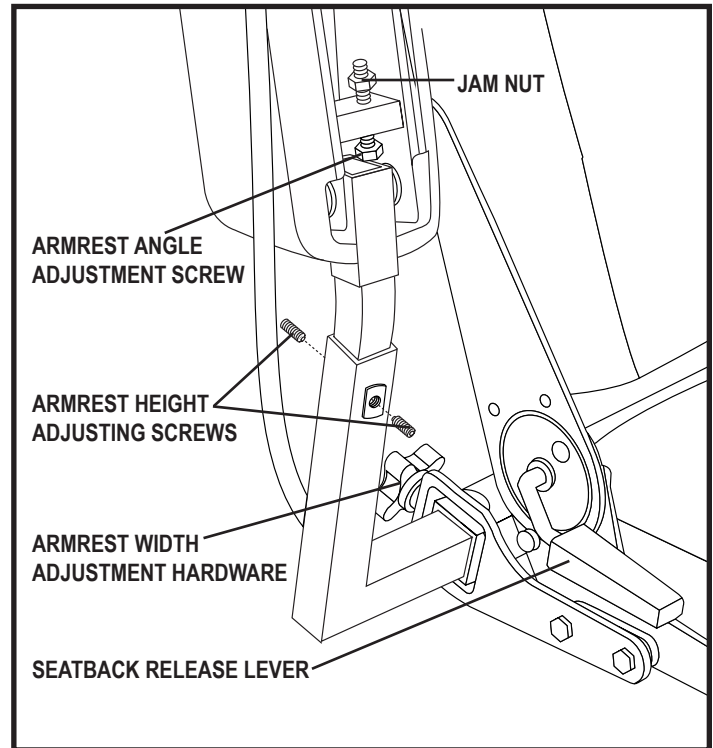

Figure 8. Armrest and Seatback Adjustments
NOTE: The most common configuration of the seat adjustment hardware is shown in figure 8. Your product may be equipped with a different configuration. All configurations operate in a similar manner.
1. Remove the adjusting screws from each seat hinge. See figure 8.
1. Locate the adjustment hardware on each side of the armrest receiver bracket. See figure 8.
2. Loosen the jam nut. See figure 8.
1. Loosen the setscrews on the armrest. See figure 8.